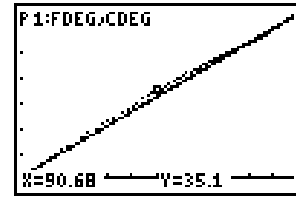

Figure 50
- Press), and explore the graph, using the # and \exists keys to switch between the three items (Figures 50 to 52).